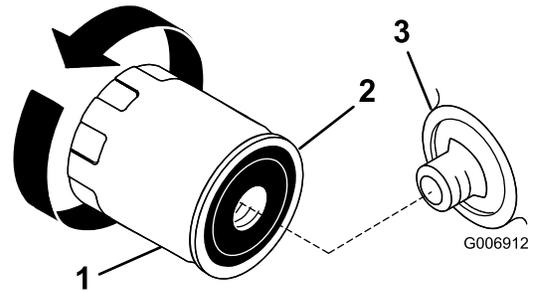

Figure 29
- Remove the old oil filter and wipe the filter adapter (Figure 29) gasket surface.
- Apply a thin coat of new oil to the rubber gasket on the new oil filter (Figure 29).
- Turn the oil filter clockwise until the rubber gasket contacts the filter adapter, then tighten the oil filter an additional 1/2 to 3/4 turn (Figure 29).